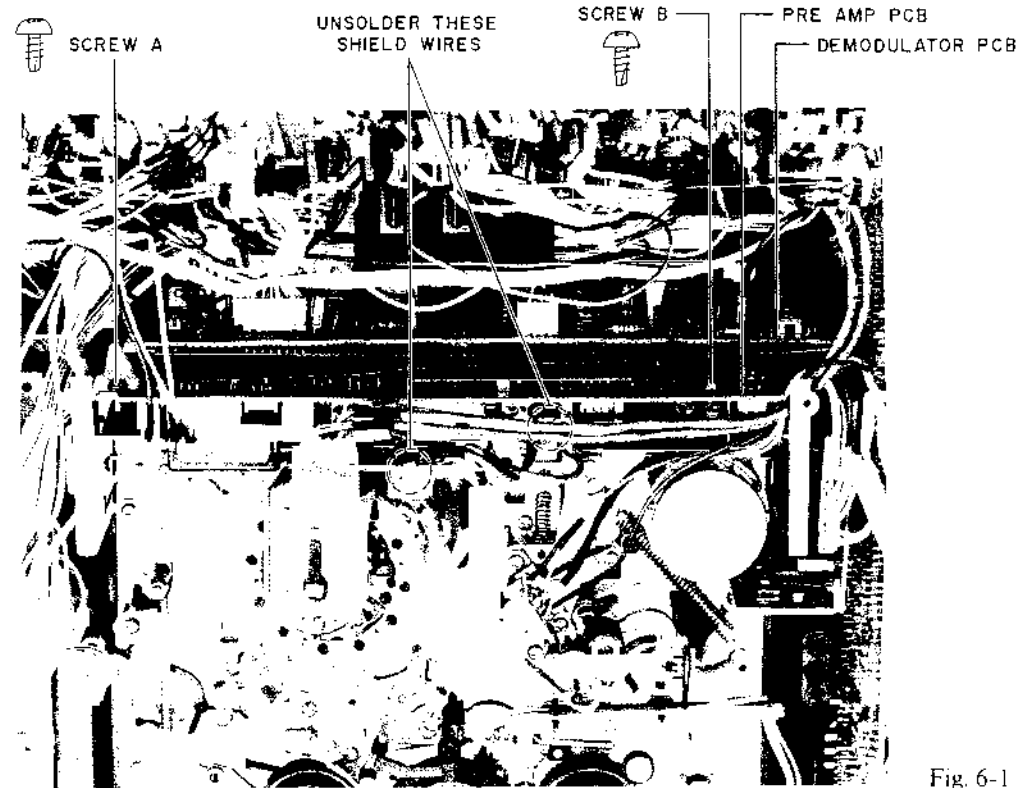

Fig. 6-1
- 3) Remove the two screws A, B fixing the PRE AMP PCB, and take off the Shield Case Cover on the PRE AMP PCB as shown in Fig. 6-1.
the PRE AMP PCB and RELAY PCB, and PRE AMP PCB and Shield Platex as shown in Fig. 6-1.